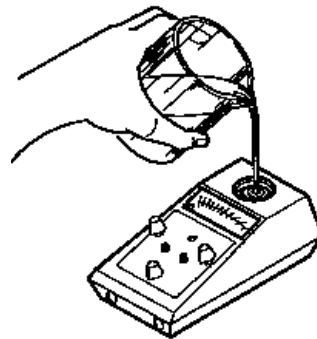

Fig. 6, Water sample reading
- 2) Take a sample of the boiler water and measure the conductivity with a calibrated hand held meter (Fig. 6). Take the sample at low pressure. If your hand held meter is not temperature compensated allow the sample to cool before measuring the conductivity.